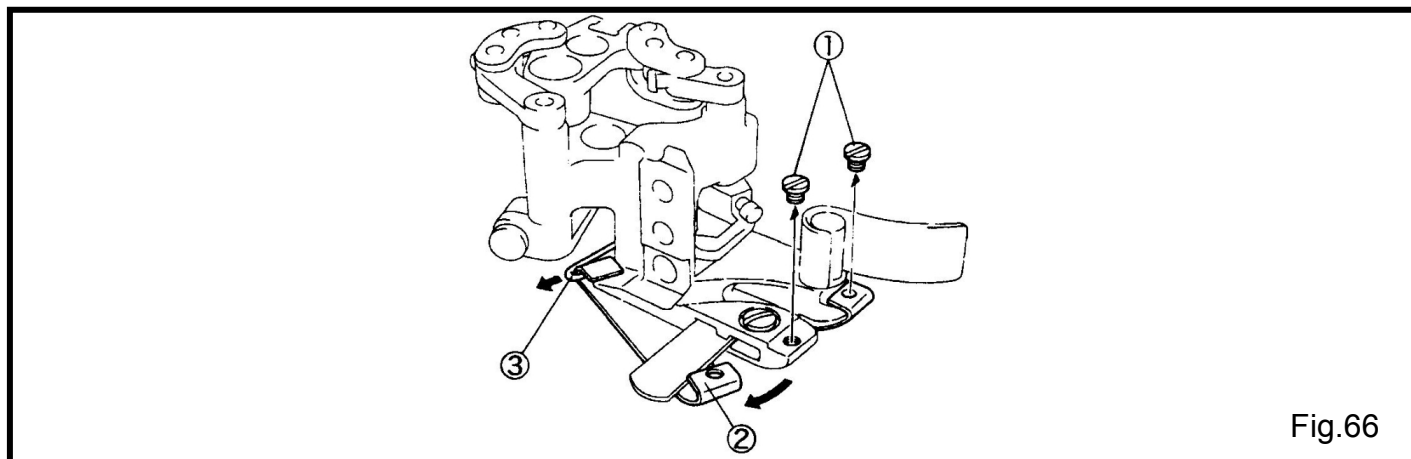

Fig.66
- (1) 拆掉螺絲①。(Fig.66)
- (2) 拆掉壓腳彈簧片②。
- (3) 移開彈簧片勾③才能拿掉彈簧片②。
- (1) Remove the screw①.(Fig.66)
- (2) Remove the presser foot spring plates② from the presser foot.
- (3) Remove each plate② from the spring plate holder③.
(Fig.66)
- (1) Reset each presser foot spring plate ② with the spring plate holder ③.(Fig.66)
- (2) Reset the plates ② parallel each other on the presser foot ②.
- (3) Tighten the screws ① securely.